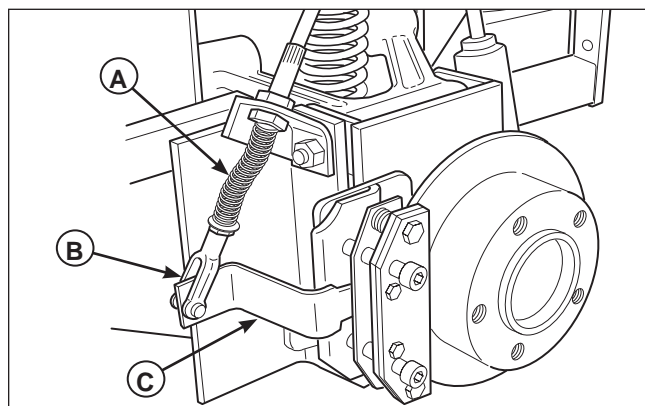

Figure 35. Parking Brake Adjustment
5. Locate the lower brake spring and adjustment clevis (A & B, Figure 35).
6. Release the parking brake and disconnect the clevis (B) from the caliper lever (C). Turn the clevis to compress or release the upper spring. Lock the nut against the clevis and reinstall the clevis onto the caliper lever.